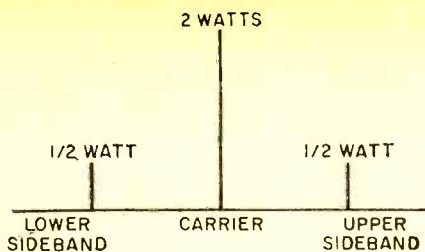

Fig. 3 The power distribution in an AM signal shows how much is wasted in the sidebands.
Figure 3. Class E CB will be boon for those who take their rigs with their wheels. Not only is Class E antenna shorter than Class D antenna, it's also easier to install. Better VSWR between transceiver final, antenna is another plus for Class E—no loading coil's needed.
**Puckered-Out Power.** To heap another indignity on old-time AM, let's see how much power it wastes. As shown in Fig. 3, if a CB transmitter is putting out 3 watts of RF power, then two watts fall to the carrier. The remaining watt then divides between the two sidebands. Thus, fully two-thirds of the transmitter RF power is lost.